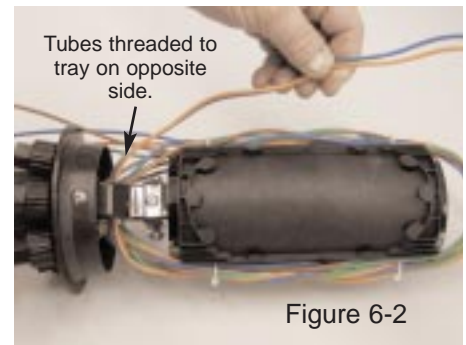

Figure 6-2
**6.02** Loop tubes to be spliced around the bottom of the tray assembly. Fibers to be spliced in the tray on the opposite side must be fed between the tube mounting bracket and the cables entering the closure. (Figure 6-2)